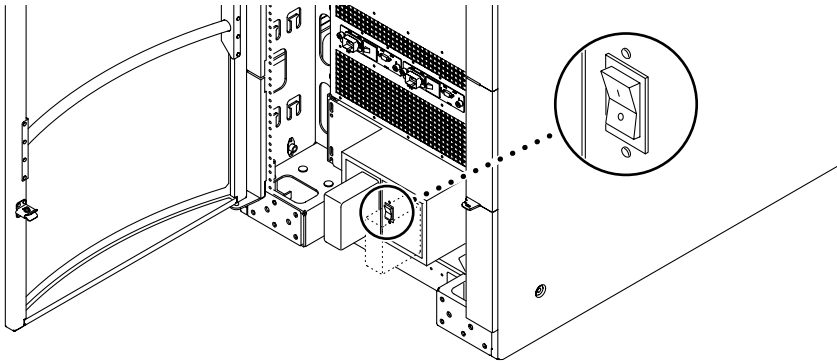

FIGURE 3-8 RTS Power Switch on the Sun Fire Cabinet
1. Turn off each redundant transfer switch (RTS) (FIGURE 3-8).